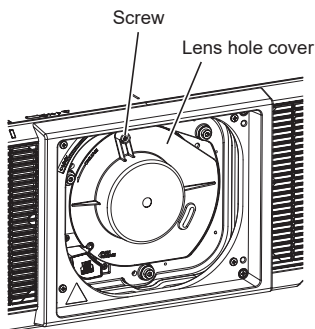

Fig 1
1) Loosen the lens hole cover screw (Fig 1).